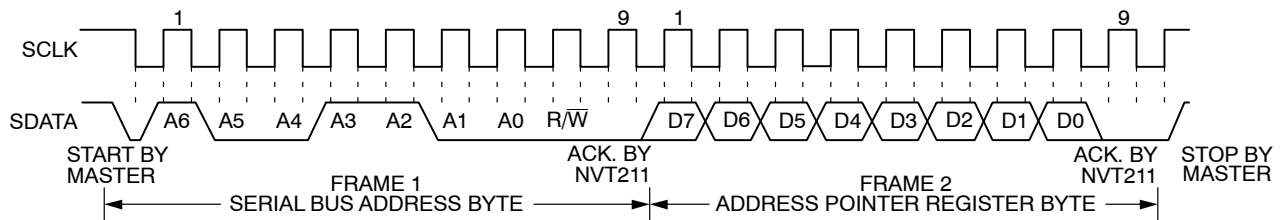

Figure 16. Writing to the Address Pointer Register Only
- If the address pointer register value of the NVT211 is unknown or not the desired value, it is first necessary to set it to the correct value before data can be read from the desired data register. This is done by writing to the NVT211 as before, but only the data byte containing the register read address is sent, because data is not to be written to the register see Figure 16.
- If the address pointer register is known to be at the desired address, data can be read from the corresponding data register without first writing to the address pointer register and the bus transaction shown in Figure 16 can be omitted.